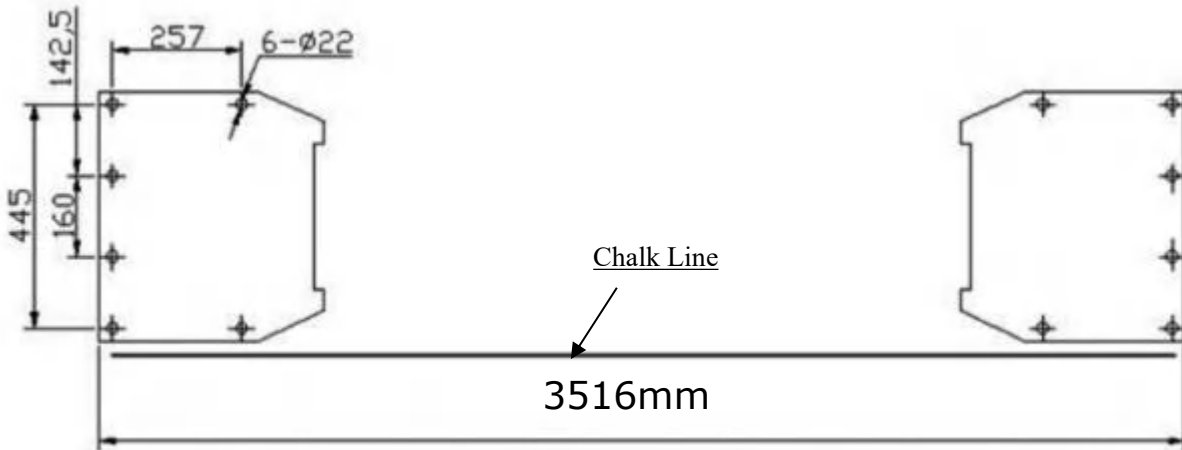

Fig. 7
B. Use a carpenter's chalk line to establish installation layout of base-plate (**See Fig.7**).